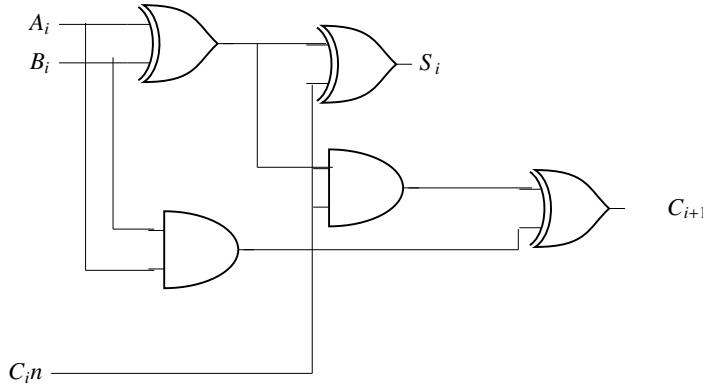

Fig. 4.18
33. Fig. 4.18 below shows the  $i^{th}$  full-adder block of a binary adder circuit.  $C_i$  is the input carry and  $C_{i+1}$  is the output carry of the circuit. Assume that each logic gate has a delay of 2 nanosecond, with no additional time delay due to the interconnecting wires. Of the inputs  $A_i$ ,  $B_i$  are available and stable throughout the carry propagation, the maximum time taken for an input  $C_i$  to produce a steady-state output  $C_{i+1}$  is \_\_\_\_\_ nanosecond.